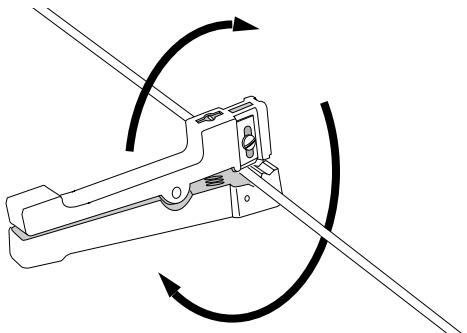

Figure 5
- Make enough turns with the cutter to cut the sheath (Figure 5). *Two turns may be adequate with a sharp blade.*